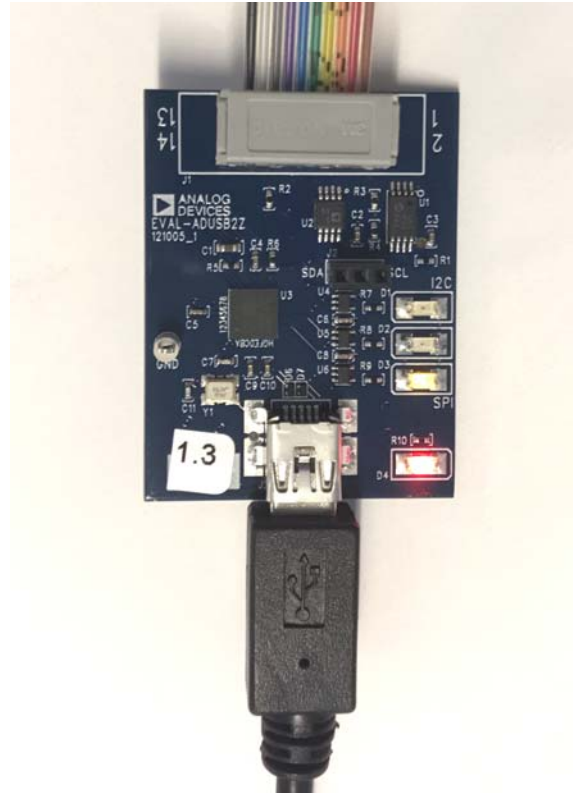

Figure 7. **USBi Status LEDs After Driver Installation**
- With the **USBi** still connected to the computer, check that both the yellow I²C LED and the red power indicator (D4) LED are illuminated (see Figure 7).